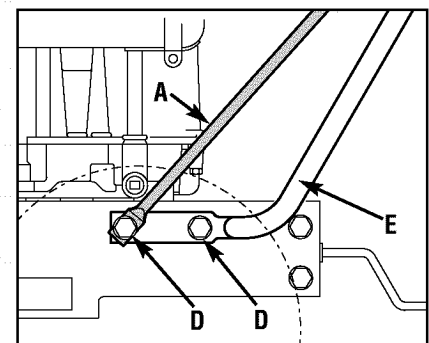

Figure 2-2: Attach handlebars and struts to engine deck.
NOTE: Four screws (D, Figure 2-2) are used to connect the handlebars to the engine deck. At the factory, these screws are threaded into lock nuts welded to the back sides of the deck.
3. From the front of the unit, tilt the right-side handlebar up over the air cleaner cover and lift the other handlebar upward. Rotate the handlebars over the engine and position the handlebar ends (E, Figure 2-2) against the sides of the engine deck.
4. Swing the handlebar struts (A, Figure 2-2) forward and align the handlebar ends (E, Figure 2-2) with the holes in the engine deck. Loosely install two 5/16"-18 x 3/4" hex flange screws removed earlier (D) into the rear holes.
5. Align the loose ends of the handlebar struts (A, Figure 2-2) over the front holes in the handlebar ends. Attach the struts and handlebars with two more 5/16"-18 x 3/4" hex flange screws. Securely tighten all four screws.